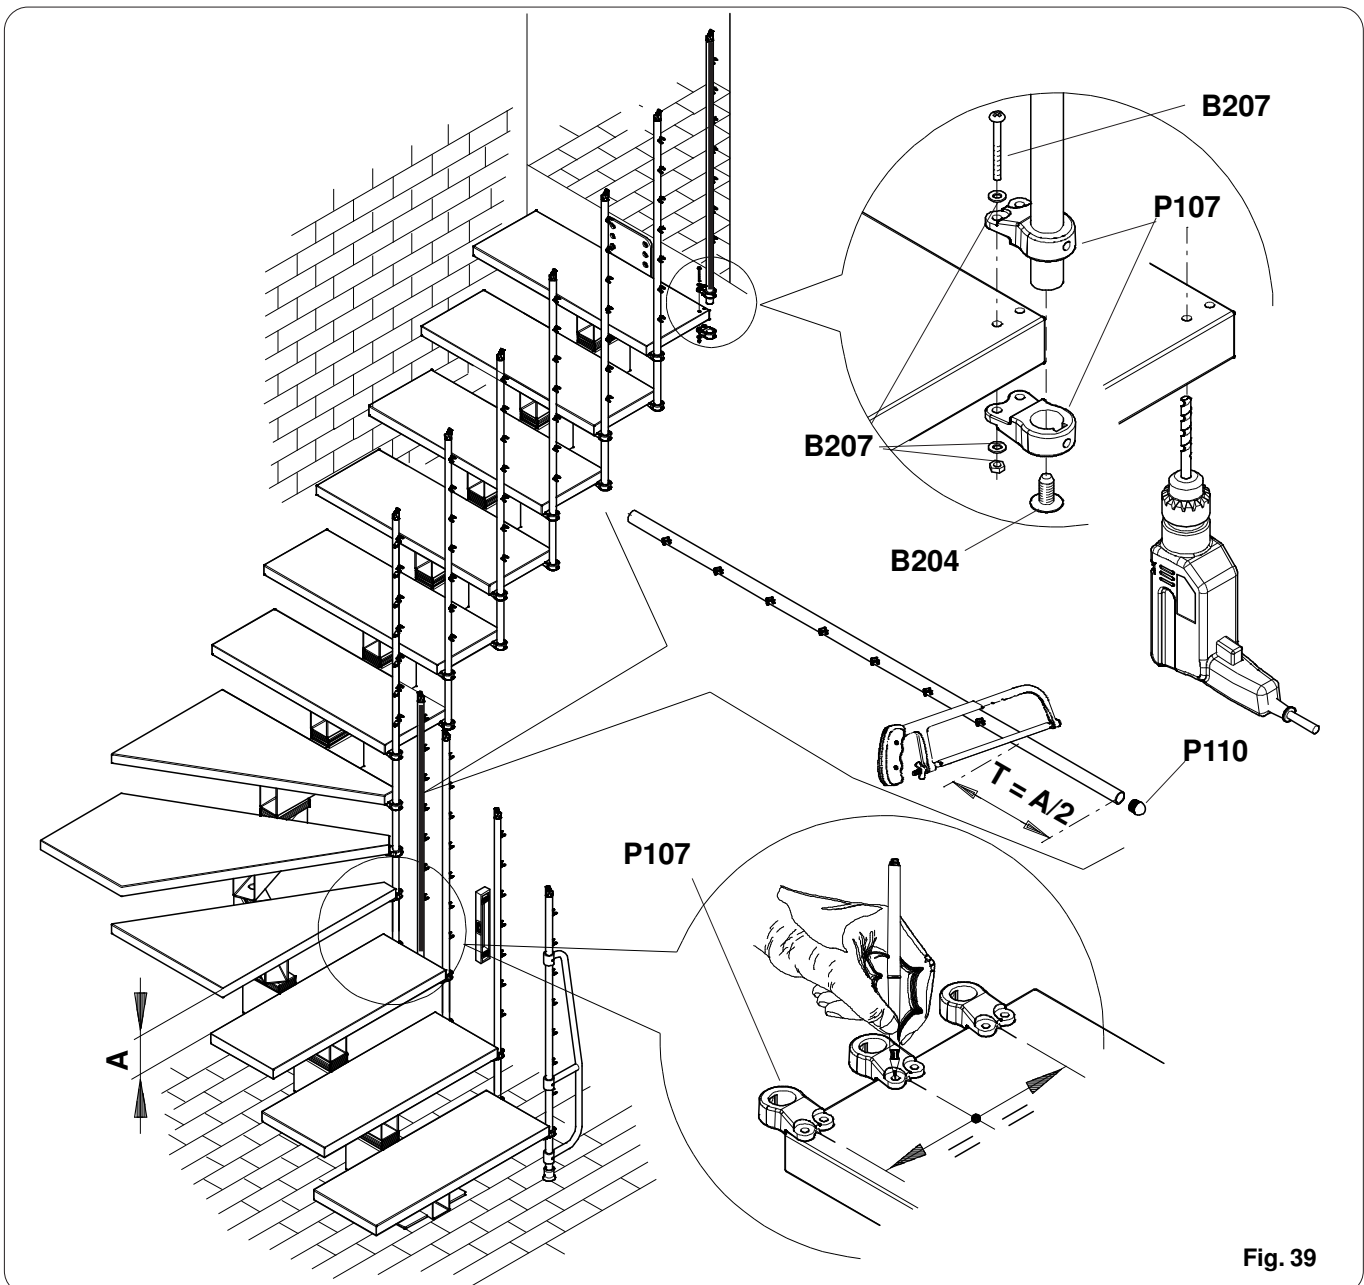

Fig. 39
- Now the correct position of the columns assembled needs to be checked. Check that they are vertical and that the cable supports face outside the staircase, as shown in fig. 39
Between the two supports anchored before, trace the position of a third element as shown in fig. 39.
Mount an additional column on the last step, at a distance equal to the tread size, as shown in fig. 39. Moreover, it is advisable to assemble an additional support anchored to the top side of the step, so that the column is anchored in a stiffer and safer way.